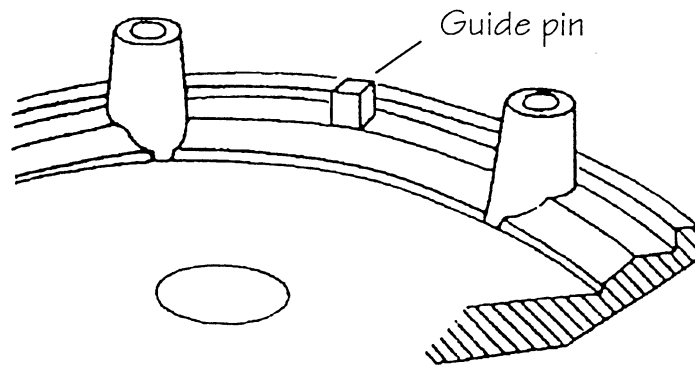

Figure 7.
9. Now assemble the upper and lower antenna part and note that the lower part has a mechanical guiding pin to assure proper assembling. See Figure 7. to locate the guide pin.